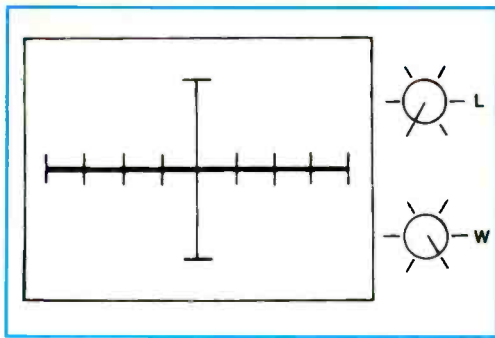

Figure 27. An SCR gives this signature when it is pulsed.
26. With the level control set at zero, a horizontal trace is displayed (see Figure 27). This is expected since SCRs normally show an open circuit between anode and cathode or between anode and gate.